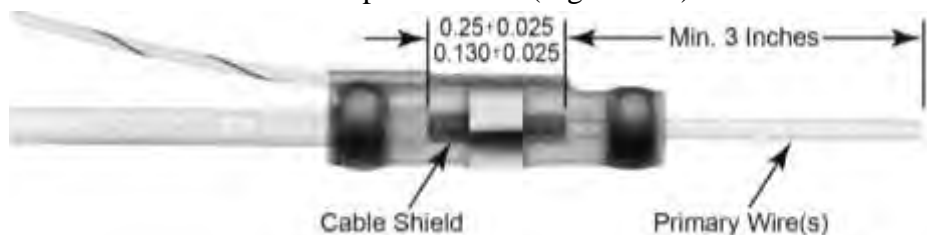

Figure 207
- c. Slide solder sleeve over exposed shield (Figure 207).